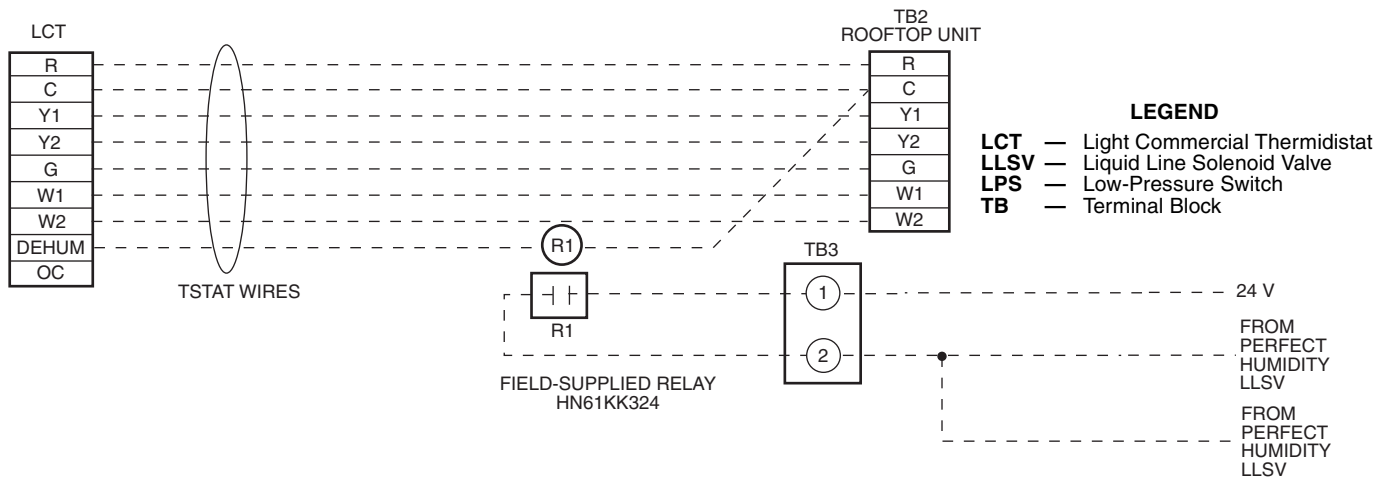

Fig. 31 — Typical Perfect Humidity™ Dehumidification Package Thermidistat Wiring Schematic
3. For light commercial thermidstat, install field-supplied relay (R1, part number HN61KK324) in control box and wire the contact terminals of relay (R1) to the low-voltage terminals 1 and 2 on the 2-pole terminal strip (TB3). See Fig. 31. Route thermostat cable from thermidstat through conduit in unit into control box. Connect the lead from the DEHUM terminal of the thermidstat to one of the coil terminals of relay R1. Wire the other coil terminal to common (C) of the rooftop unit terminal board (TB2).